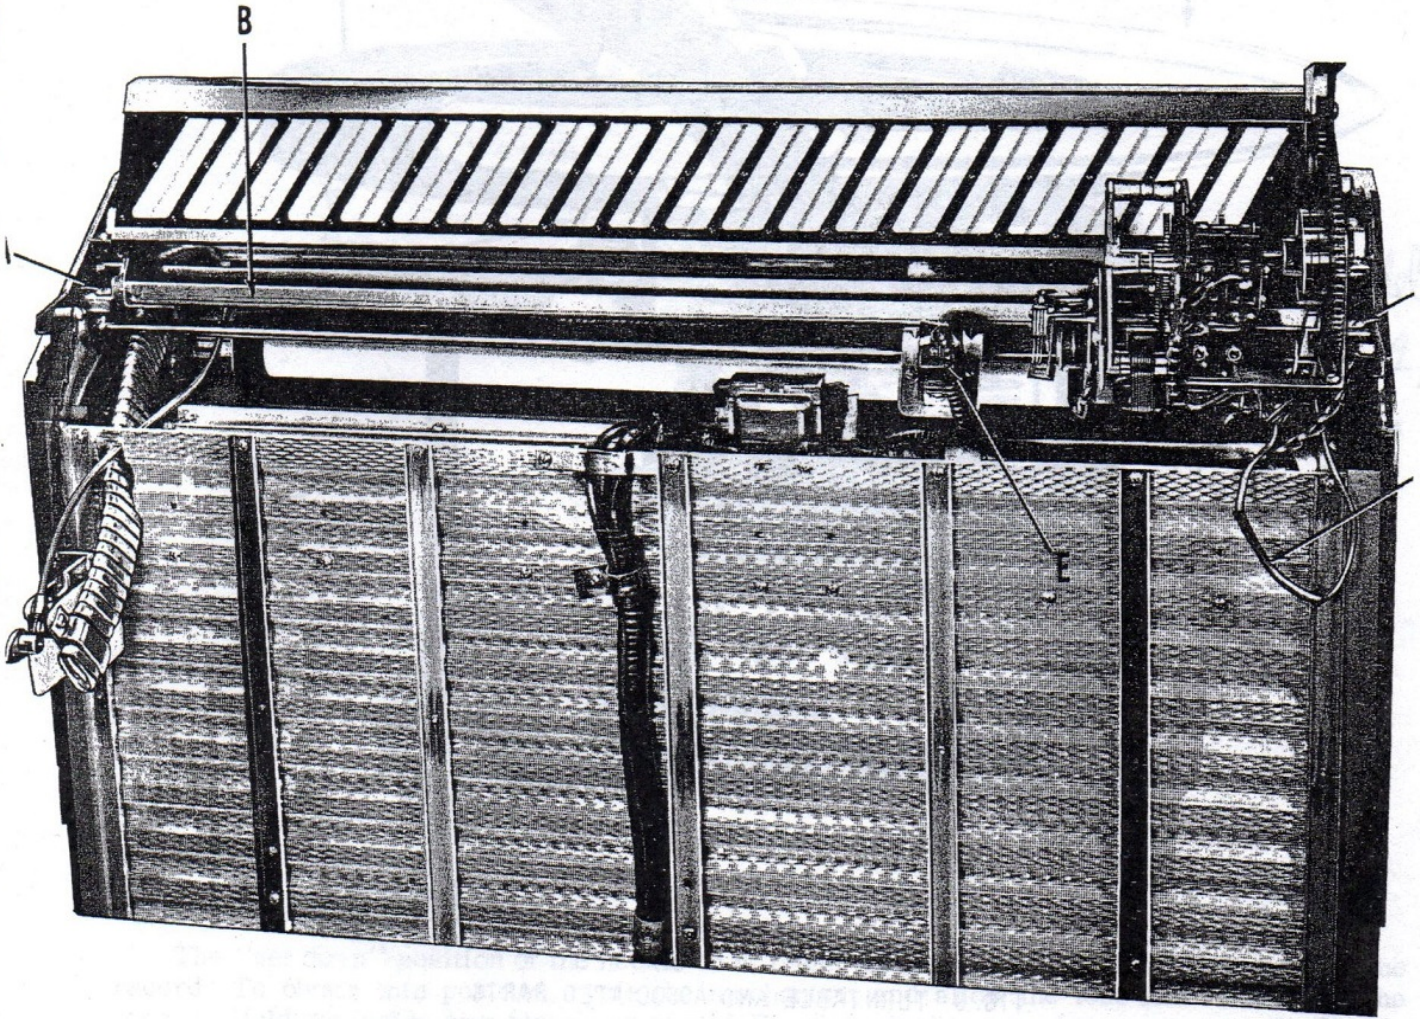

FIG. 2 PROGRAM HOLDER ASSEMBLY
The program holder assembly (B-Fig. 2) may be removed for servicing by the following procedure:
2. Remove two machine screws (A-C-Fig. 2). Note that the brackets through which the screws are inserted, are elongated. This will permit the complete program holder assembly to be shifted laterally, so that it clears the two latch brackets on the cabinet, when the front door is closed.
3. Disconnect the "knife" connection at (D-Fig. 2). The connection is under the protective tubing.
4. Disconnect the 12 position Jones plug (E-Fig. 2).